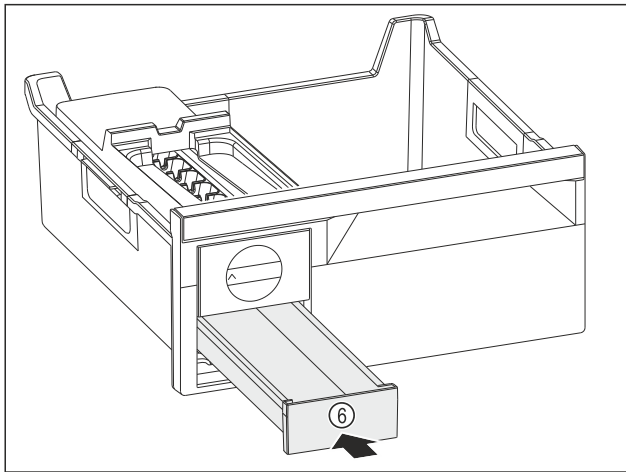

Fig. 73
- ▶ Insert the ice cube drawer Fig. 73 (6).